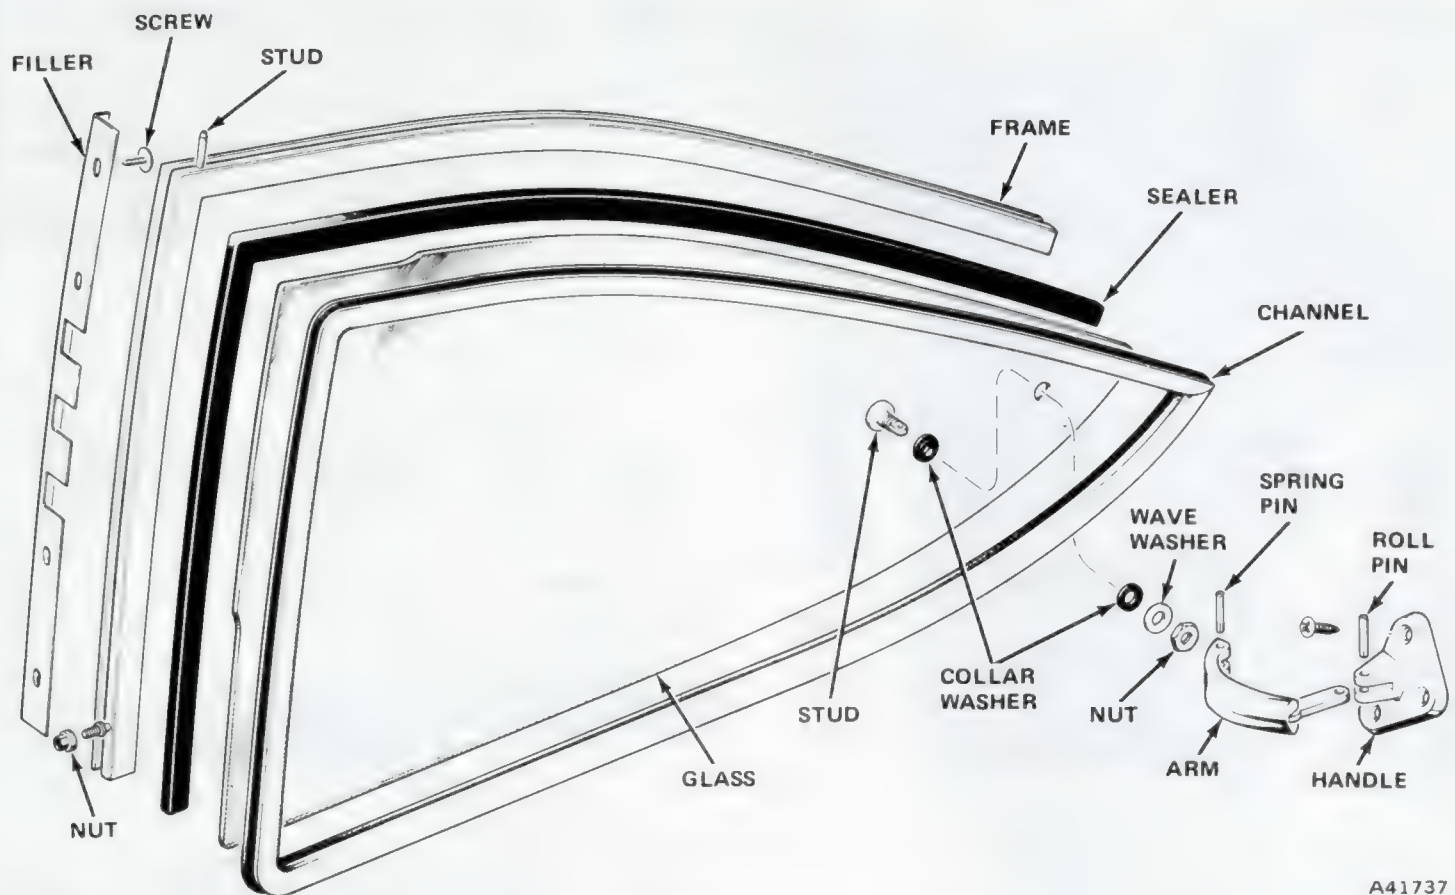

Fig. 3K-7 Swing-Out Rear Quarter Window Assembly
- (1) Remove window latch handle-to-body attaching screws (fig. 3K-7).
- (2) Remove plug button in forward side of B-pillar.
- (3) Remove lower pivot nut.